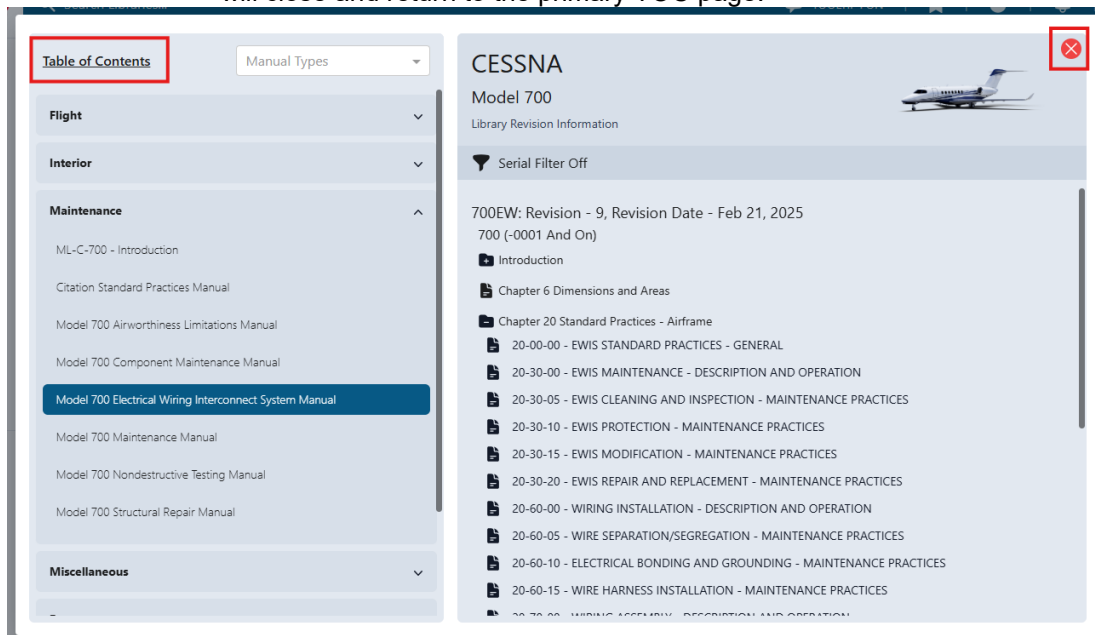

Figure 6 - Table of Contents Window and Close Options.
- c. The Table of Contents offers two separate return options (Refer to Figure 6).